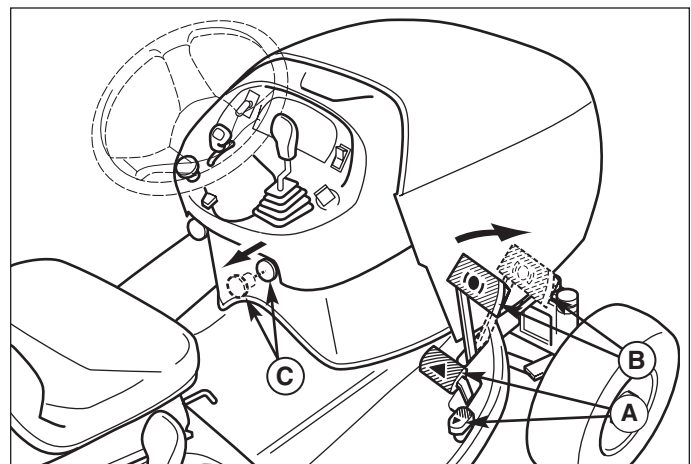

Figure 2. Engaging the Parking Brake
Applying the Parking Brake - See Figure 2. To lock the parking brake, release the ground speed pedals (A), fully depress the brake pedal (B), pull the parking brake knob (C) out, and then release brake pedal.
Releasing the Parking Brake - See Figure 2. To release the parking brake, fully depress the brake pedal (B) and push in the parking brake knob (C).